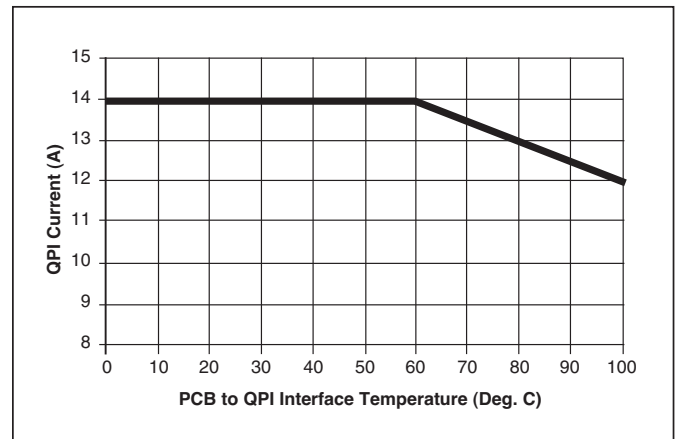

Figure 5 – QPI-5 current derating curve.
- -40° to +100°C PCB temperature (See Fig. 5)
Note 3: Refer to Figure 5 for current derating curve.
The current derating curve shown in Figure 5 should be used when the PCB temperature in close proximity of the QPI-5 exceeds 60°C. For example, the QPI-5 will support up to 13 A of current or 308 W from a 28 Vdc bus at an 80°C interface temperature. Temperature should be measured at the PCB interface to the QPI-5 on the Bus +/- pads or the QPI+/- pads. Refer to Figures 9, 10 & 12 for PCB layout recommendation.